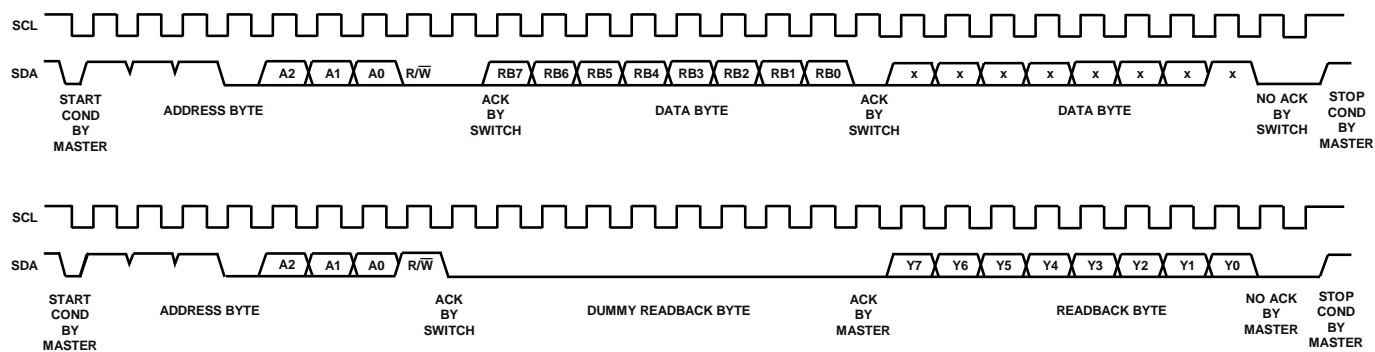

Figure 35. Read Operation
- b. Enter the readback address for the X line of interest, the addresses of which are shown in Table 8. Note that the ADG2108 is expecting a 2-byte write; therefore, be sure to enter another byte of don't cares (see Figure 35).
The entire read sequence is shown in Figure 35.